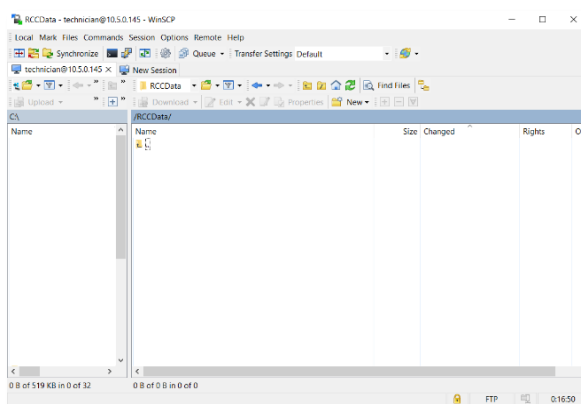

Figure 105: The contents of the 'RCCData' folder when using an FTPS client.
3. Open the **RCCData** folder. The RCCData folder will open and display the available files (Figure 105).